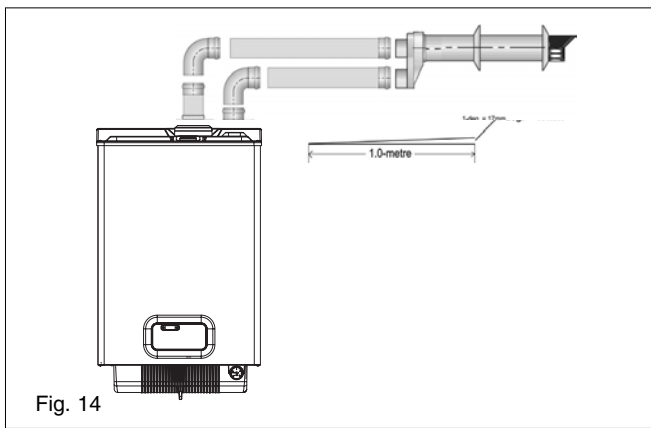

Fig. 14
4.5.3.2 HORIZONTAL TERMINATION (fig. 14)
If you intend to run the pipe-work vertically behind the appliance, it will be necessary to use the rear spacer kit (part code 435). It will also be necessary to adjust the pitch of the fixing jig to compensate for the increase in the depth of the appliance. The appliance is supplied with a fixing jig that includes service valves (fig. 14). The service valves are of the compression type. The accessories pack contains sealing washers etc., for use with the service valves.